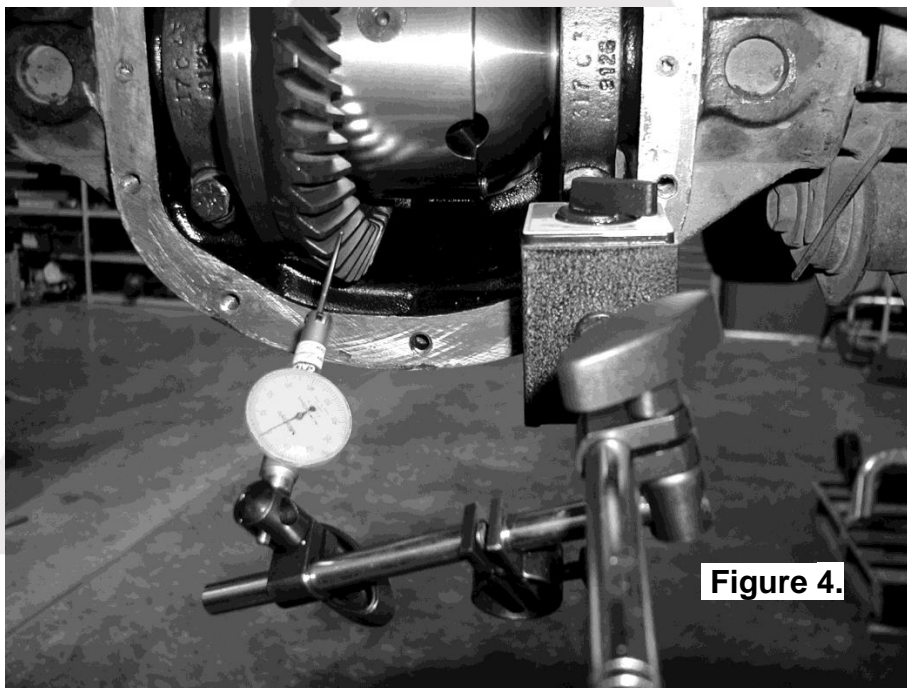

Figure 4.
- Set a depth indicator on one of the ring gear teeth as in figure 4.